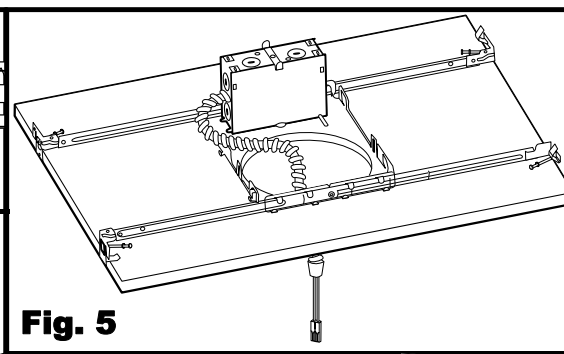

Fig. 5
5. Pull the quick connector down from hole. [Fig. 5]